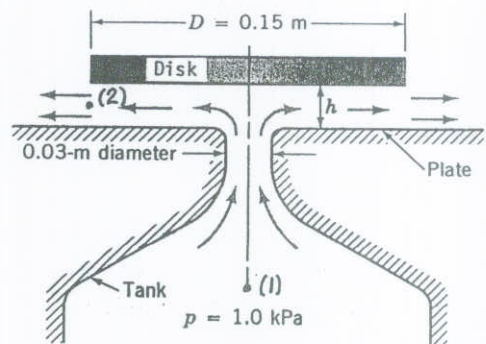

FIGURE P3.97
3.97 Air flows from a hole of diameter 0.03 m in a flat plate as shown in Fig. P3.97. A circular disk of diameter  $D$  is placed a distance  $h$  from the lower plate. The pressure in the tank is maintained at 1 kPa. Determine the flowrate as a function of  $h$  if viscous effects and elevation changes are assumed negligible and the flow exits radially from the circumference of the circular disk with uniform velocity.